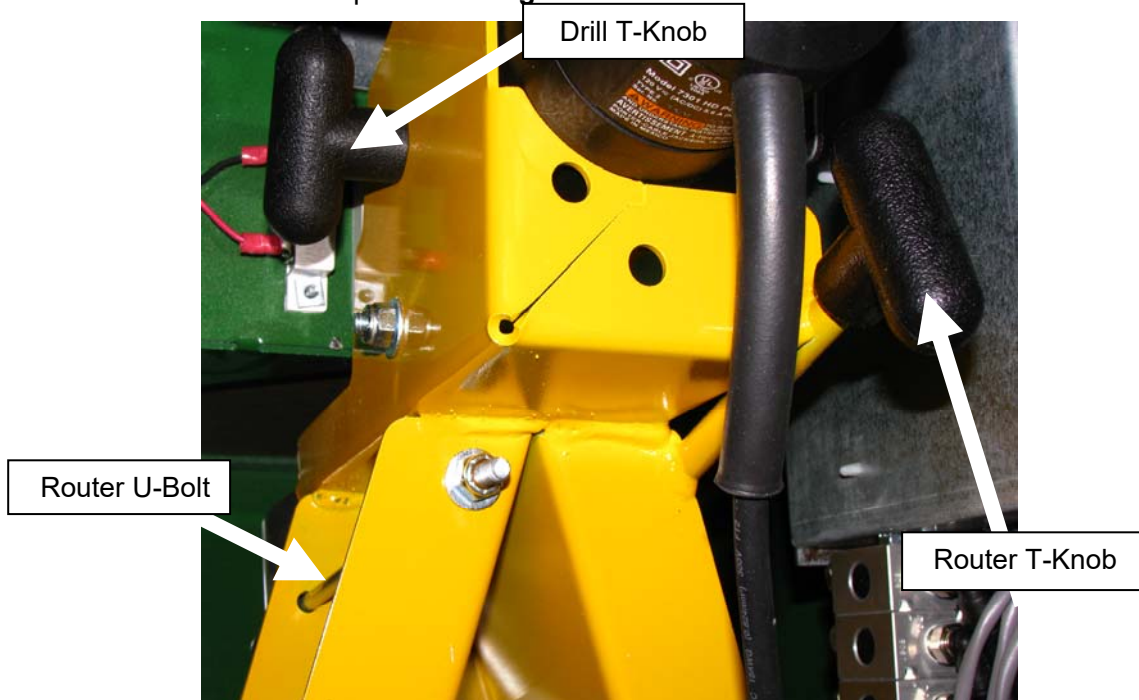

Fig 25
3. To the right of the Drill Motor is the Router T-Knob that tightens a large U-Bolt holding the Router Motor in place. **See Fig 25.**
2. Open the rear door and locate the Drill Motor at the top of the Motor Carriage. Just to the left is the Drill T-Knob that tightens a bolt holding the Motor in place. **See Fig 25.**